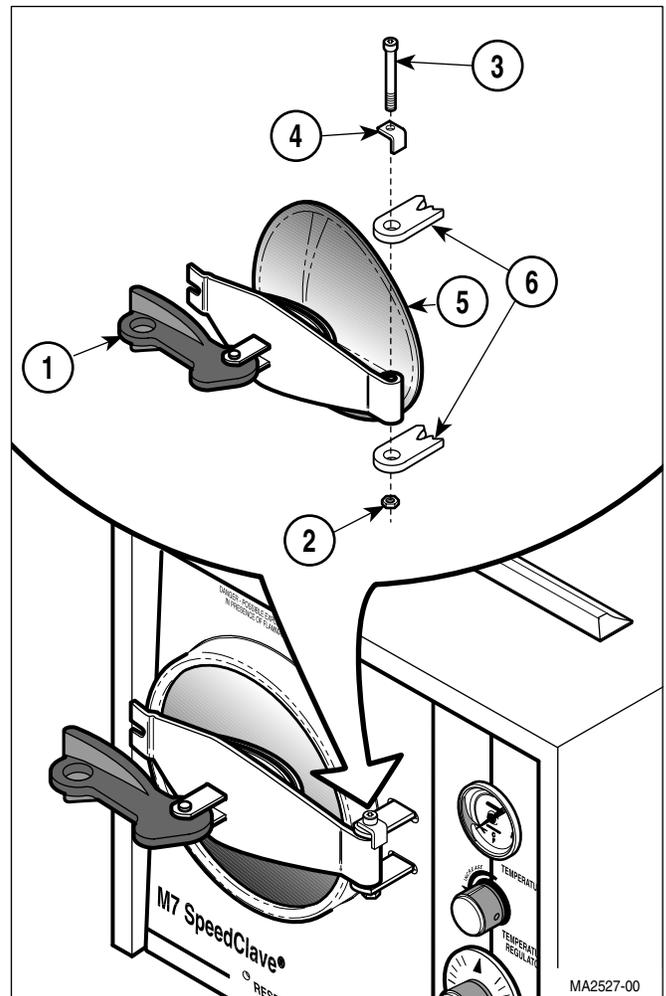

Figure 4-20. Door Assembly Removal / Installation
- (1) Open door handle (1, Figure 4-20) to the unlatched position.
- (2) Remove torque nut (2), screw (3), door stop (4), and door assembly (5) from hinge (6).